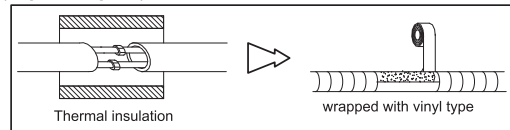
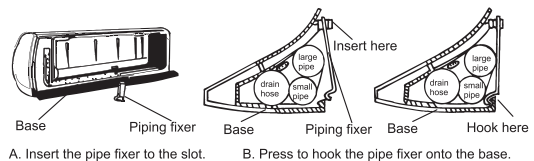

Fig. 13
Fig. 15
- 5) After connecting piping as required, install the drain hose. Then connect the power cords. After connecting, wrap the piping, cords and drain hose together with thermal insulation materials (Fig.13-Fig.15).